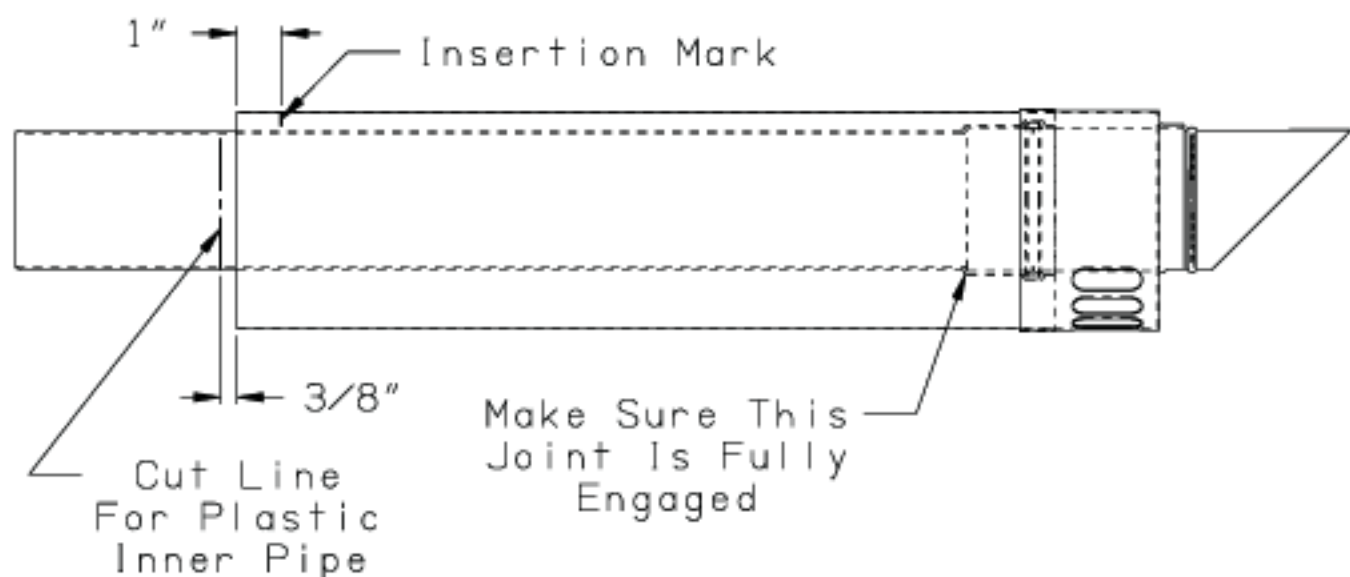

FIGURE 6.20c: CUTTING INNER PIPE OF HORIZONTAL TERMINAL
- f) Reinstall the aluminum inner pipe in the terminal, making sure that the female end of this pipe is completely bottomed out over the aluminum male connection visible behind the air intake grill. Place a mark on the aluminum inner pipe 3/8" beyond the end of the outer pipe (Figure 6.20c). Use a fine tooth hacksaw or hand shears to cut the aluminum pipe and be careful to cut the pipe square (if necessary, the aluminum pipe can be removed from the terminal again for cutting). De-burr the cut edge of the aluminum pipe with a file or fine sandpaper.
- g) Make a mark on the terminal section 1" from the cut end of the outer pipe as shown in Figure 6.20c.